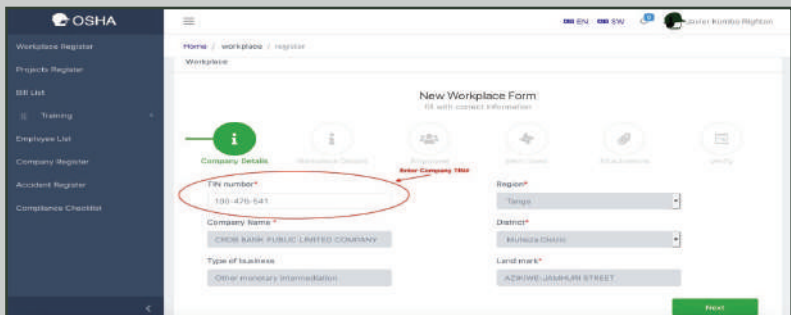

Figure 11: Enter TIN page
- ii) Enter Workplace TIN Number as shown on Figure 11 and click NEXT button to proceed. Note also that fields marked ‘*’ are mandatory, and hence should not be left blank;